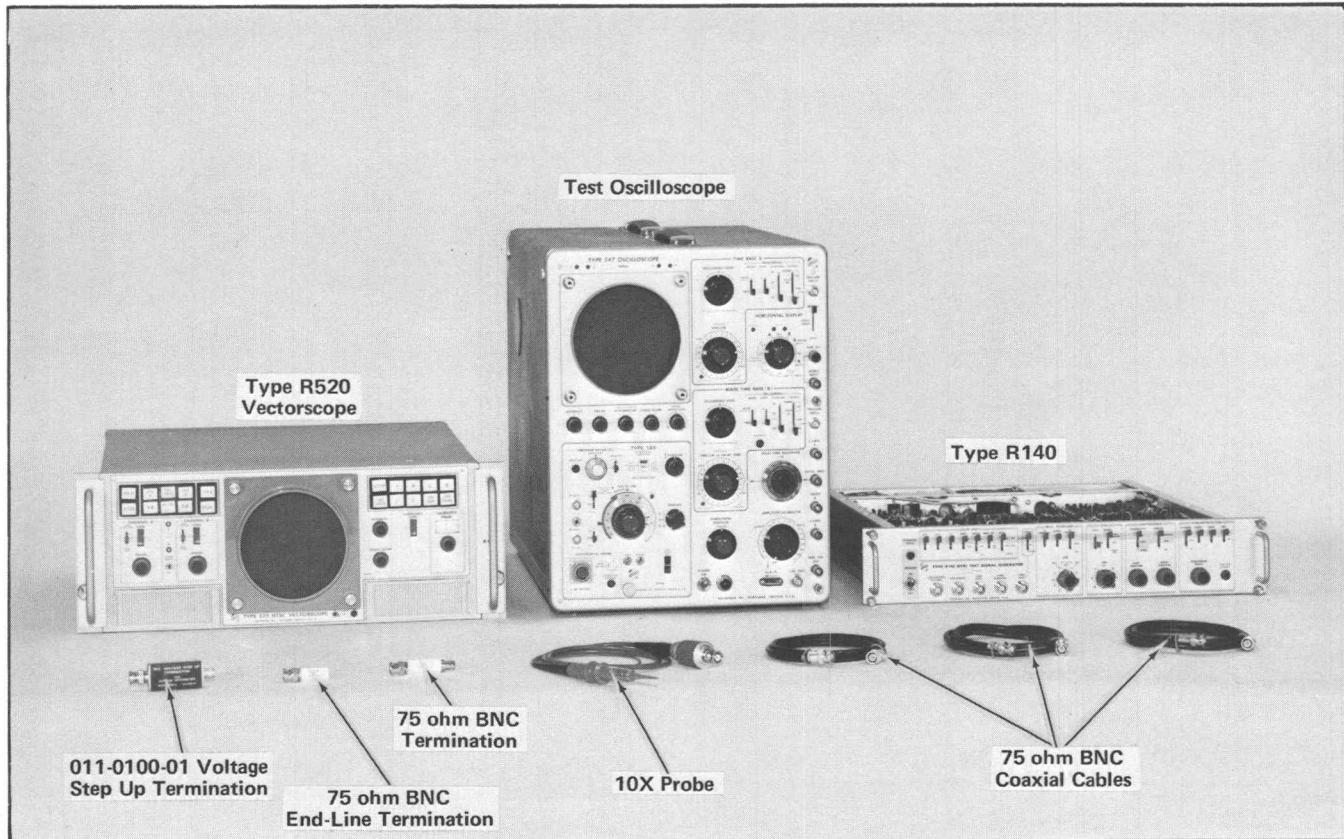

Fig. 5-13. Test equipment required for steps 12 through 17.
- Test equipment is shown in Fig. 5-13.